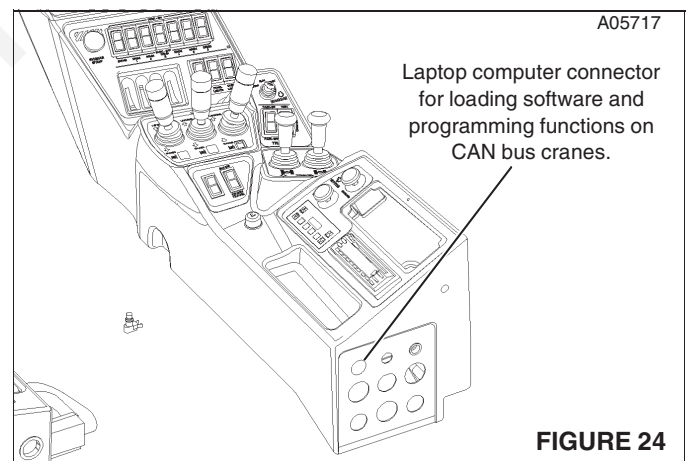

FIGURE 24
5. Connect download harness to console CAN bus install port and to RS 232 serial port on laptop (see Figure 24).